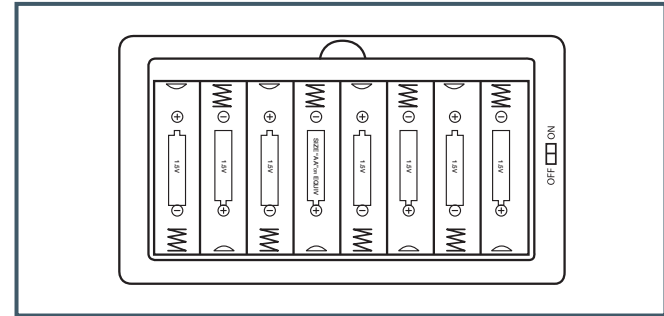

Fig. 4
2. Install 8 AA alkaline batteries as shown and replace cover. (Fig. 4)